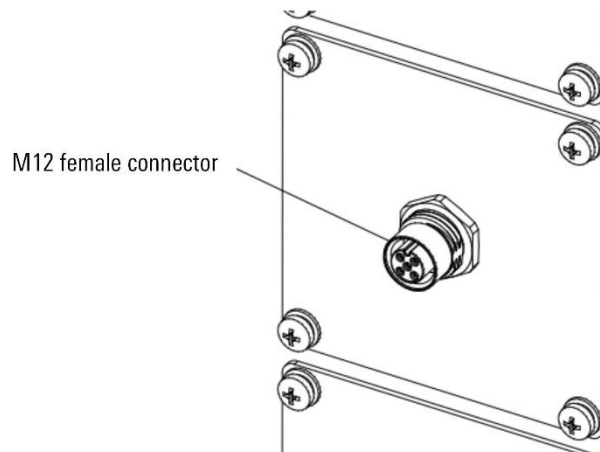

Figure 18-39 M12 female connector
Step2. Install the M12 female connector (reference Figure 18-39) on the M12 connector mounting plate.